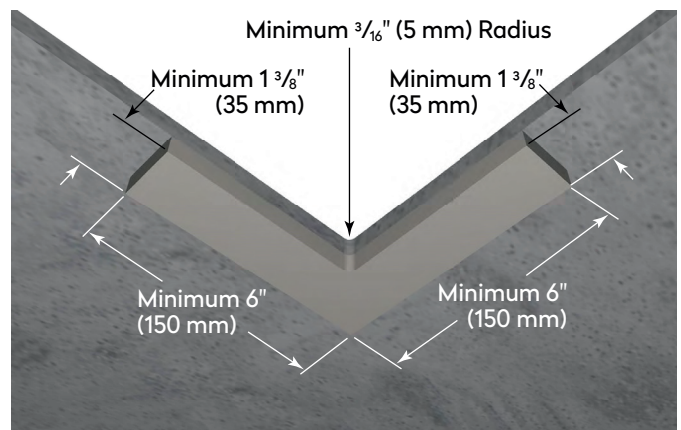

Figure F-1: High-Strength Corner Block
- At least (150 mm x 150 mm) 6" x 6" with a minimum depth of 35 mm ($1-3/8$ ") after routing the corner as seen in Figure F-1: High-Strength Corner Block